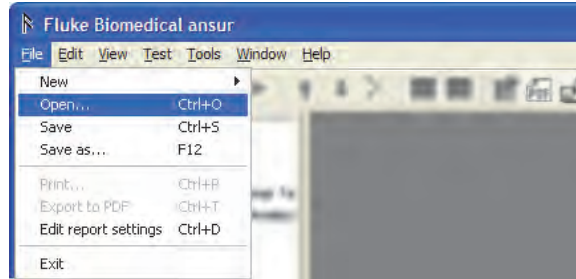

Figure 3-3. Opening an Ansur Template
1. Double-click the Ansur Test Library Shortcut on the desktop, or click on **File | Open** or click the **Open** icon (📁) on the main toolbar to open the dialog box shown in Figure 3-3.